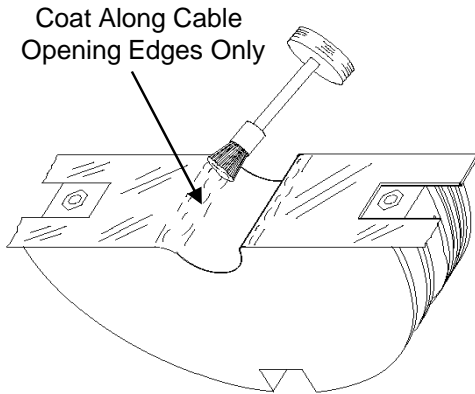

Figure 17
10.11 Paint a strip of C-Cement over LOCK-TAPE Sealant along edges of cable openings only. **See Fig. 17.**